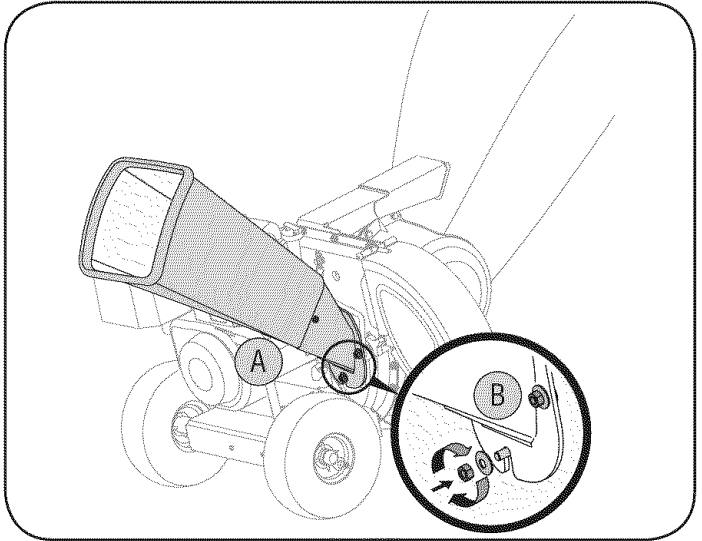

Figure 6
- a. Align the chipper chute over the weld studs, so the slot in the bottom of the chute is facing down. See Figure 6.